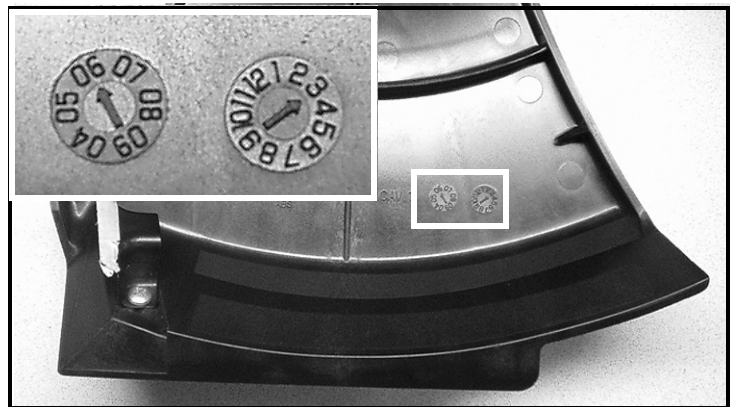

FIGURE 1
- To read the mold date refer to Figure 1. The mold date clock on the left, see inset, is the "mold year" (last two digits of the year). The mold date clock on the right, see inset, is the "mold month".
- Determine the shield's "mold date" by reading the right hand clock then the left hand clock. The mold date for the shield in Figure 1 is "03/06" (March 2006).